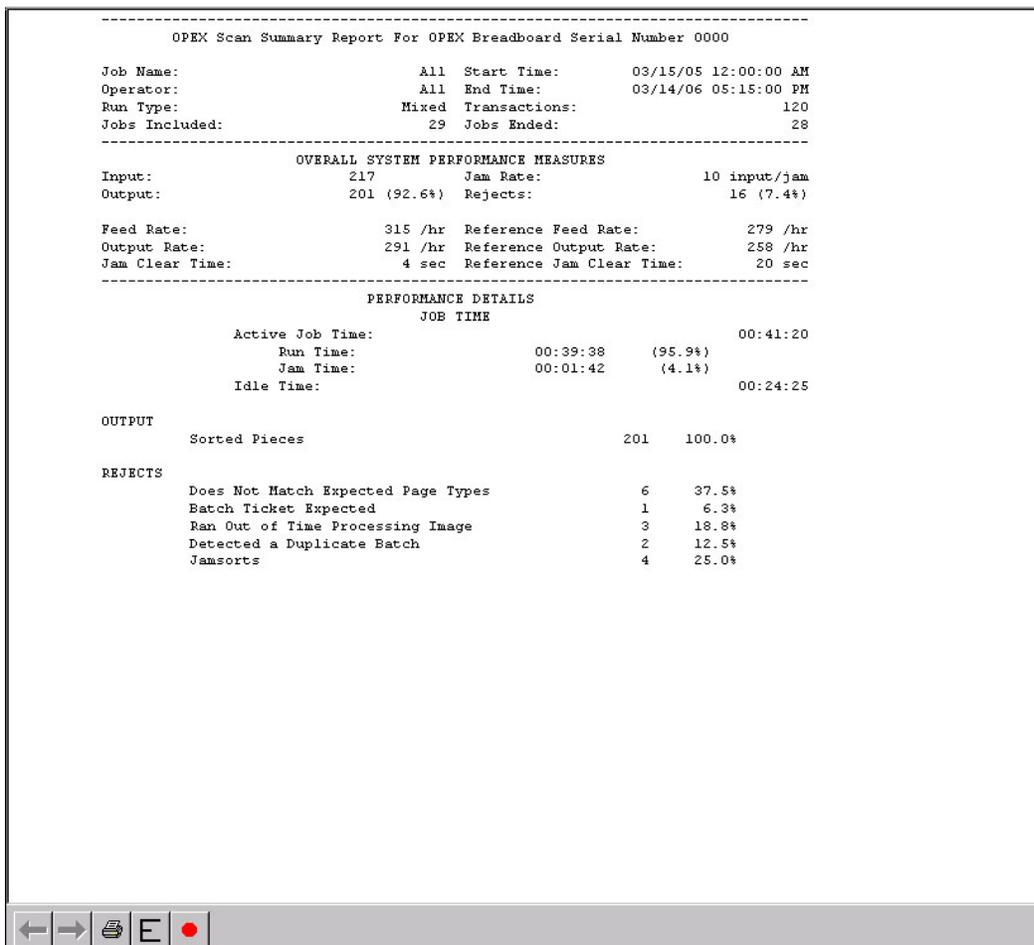

FIGURE 33: Statistics Report window
- Date - set the start and end date for the report. In Figure 33, the Summary report was run for a single day, but virtually any range can be selected.
- Time - set the start and end time for the report. In Figure 33, these parameters were set to include the 3rd shift (12:00 AM-8:00 AM) and the first shift (8:00 AM to 4:00 PM).
- 6 Click **Ok**. The statistics report will appear. Figure 33 shows the report for the above criteria.